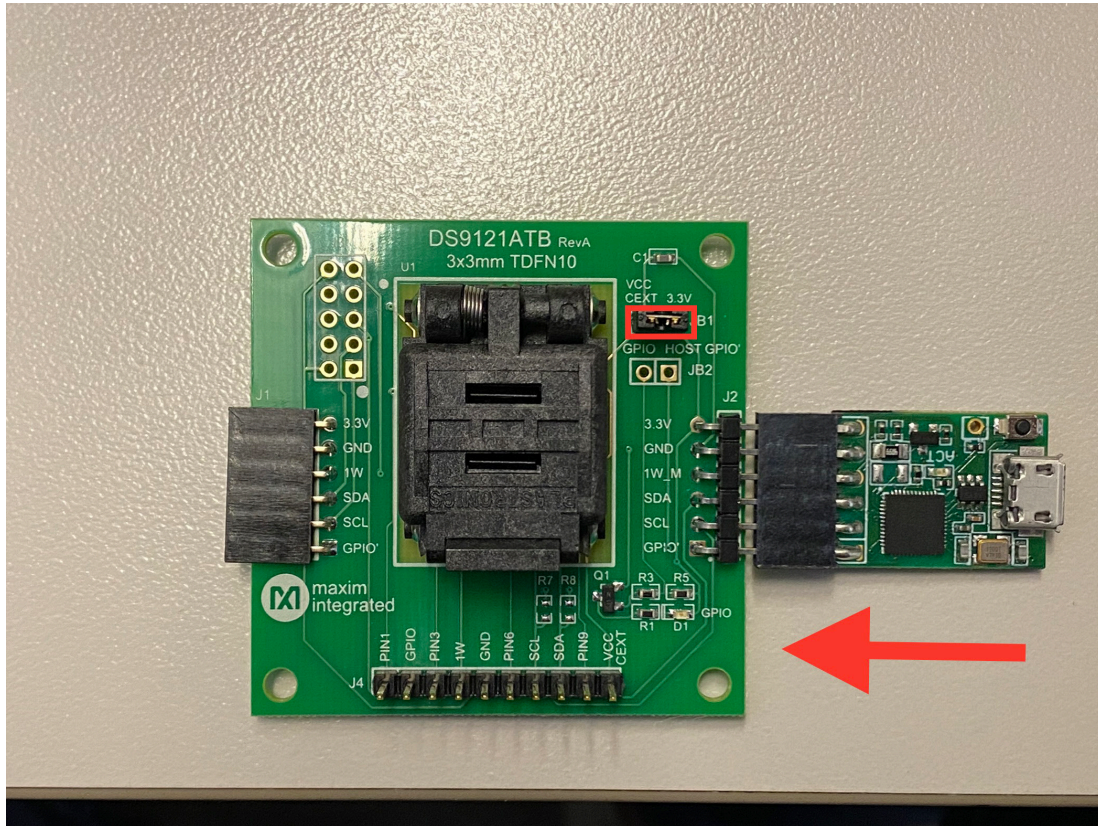

Figure 7. DS9481P-300# and DS9121ATB+
- Connect the DS9121ATB J2 6-pin male plug into the DS9481P-300# 6-pin female socket per Figure 7.